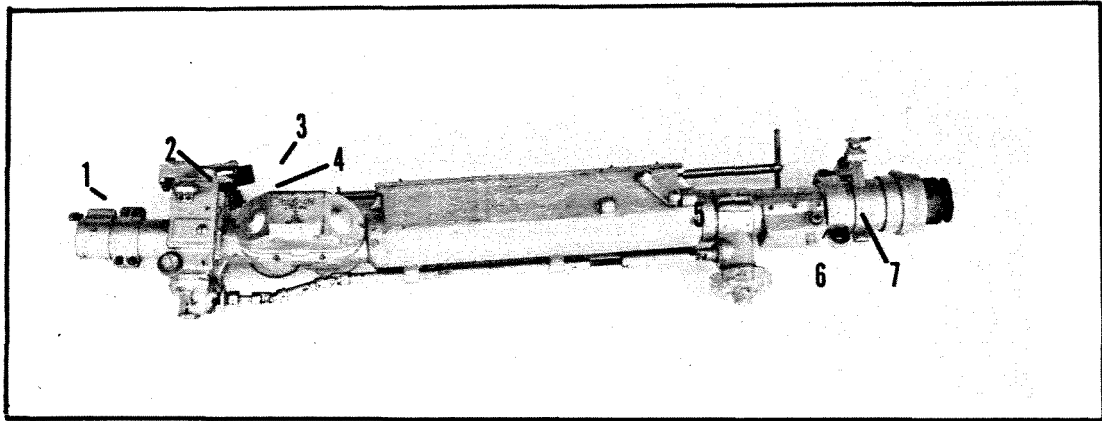

FIG. 3-16. TSh2B-41u GUNNER'S TELESCOPE, LEFT SIDE
a. Sighting and Fire Control Equipment (Figs. 3-16, 3-17).
(1) Gunner's Telescope, TSh2B-41U is the gunner's primary means of target engagement and the sole means for daylight use. It is an excellent optical device that incorporates a rotating reticle to compensate for superelevation, a selection of filters, a choice of magnifications, and an adjustable headrest for right or left eye use.
A filter switch is positioned on the left side of sight just forward of the rear mounting bracket (Fig. 3-16). The filter is used to reduce glare in the field of view.